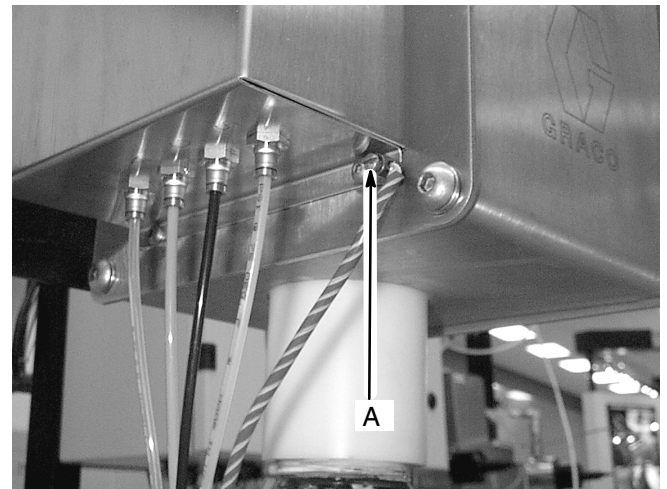

Fig. 3
Gun Flush Box: Connect a ground wire to the grounding lug (A) on the box. Connect the ground clamp to a true earth ground. Refer to Fig. 3.